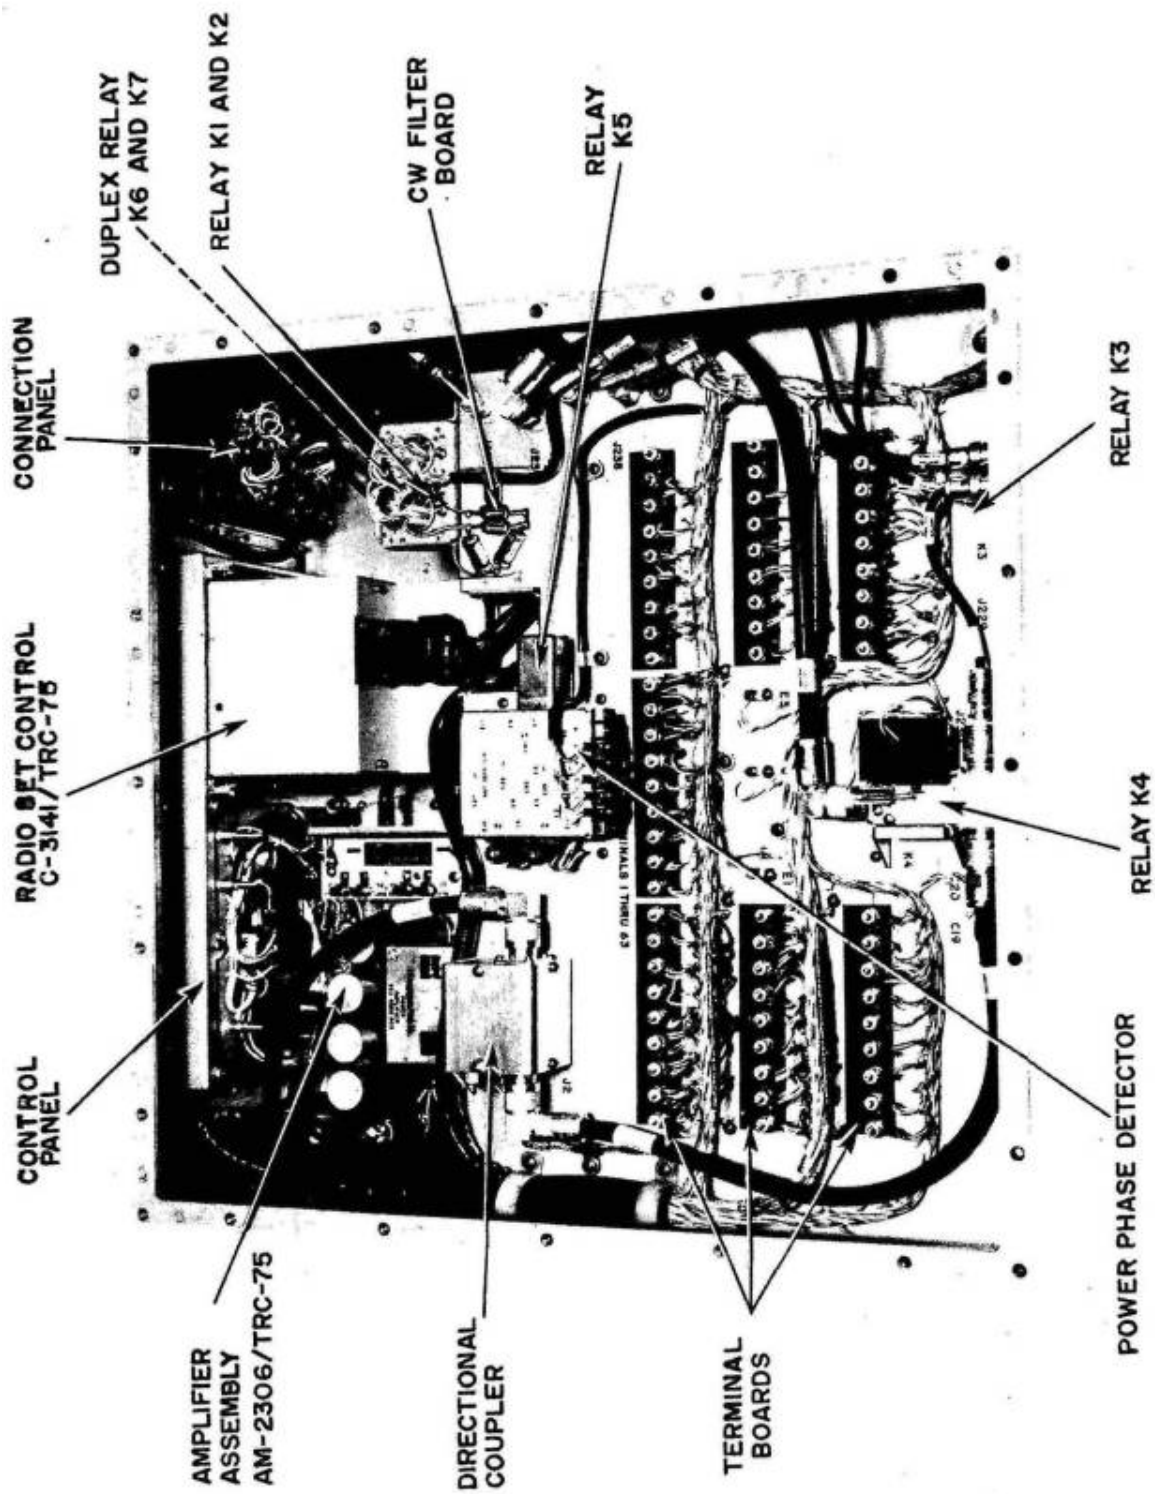

FIG 11 - RADIO SET AN/TRC-75 (DUPLEX) WITH TOP COVER REMOVED
46. Operating relays, interconnecting wiring terminal boards, audio amplifiers, directional coupler and control panel units are accessible after removal of the top cover of the case. Fig 11 shows the unit with the top cover removed. An interconnecting wiring diagram is mounted on the inside of the top cover. Operating instructions for the radio set when used as a transceiver are printed on the front panel of the case.
#### Radio Set Control C-3141/TRC-75 (Fig 11)
#### Amplifier Assembly AM-2306/TRC-75 (Fig 11)
73. This control unit is the same type as that used in Radio Set AN/TRC-75 described in paras 55 to 57 (see Fig 11).